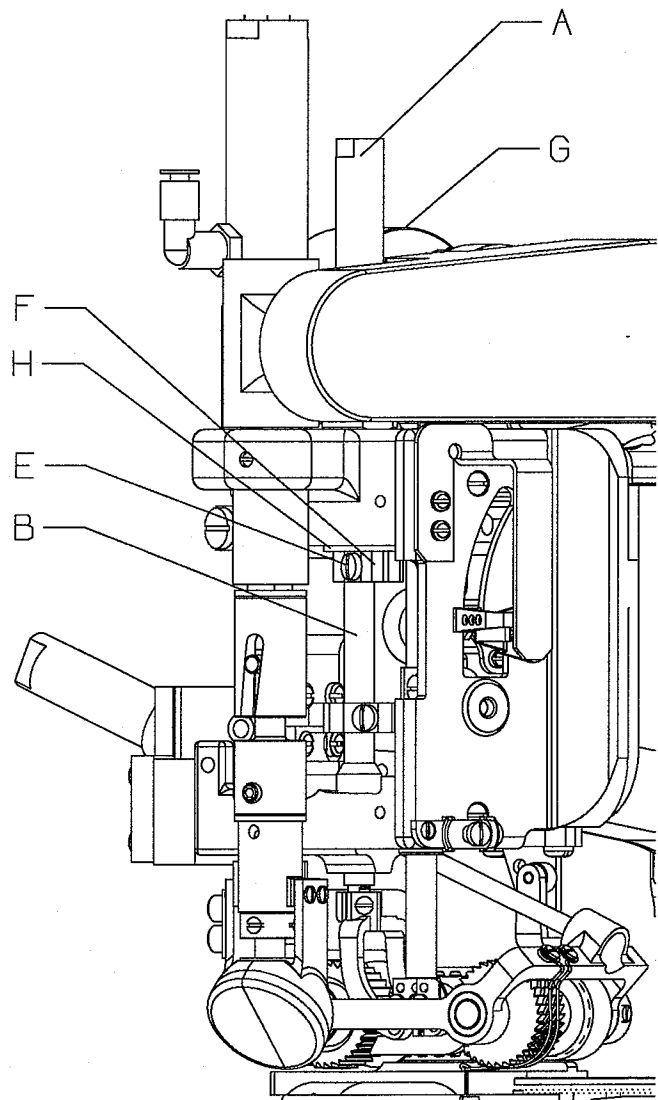

Fig. 2
When presser bar air assembly (A, Fig. 2) and/or presser bar (B, Fig. 2) has been removed or replaced, presser bar stop collar (F, Fig. 2) must be reset. Stop collar must be set so that there is a minimum of $1/32$ " (0.8mm) clearance between top of presser foot (C) and needle bar head (D). The clearance setting must be done with needle bar at bottom of stroke.